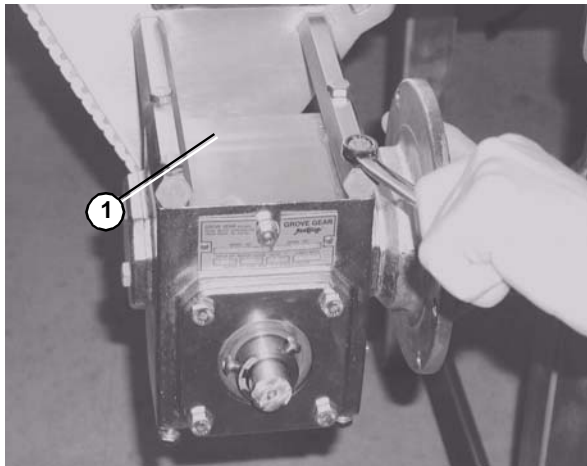

Figure 58
4. Unbolt the gear head and slide it off the drive spindle (**Figure 58**).